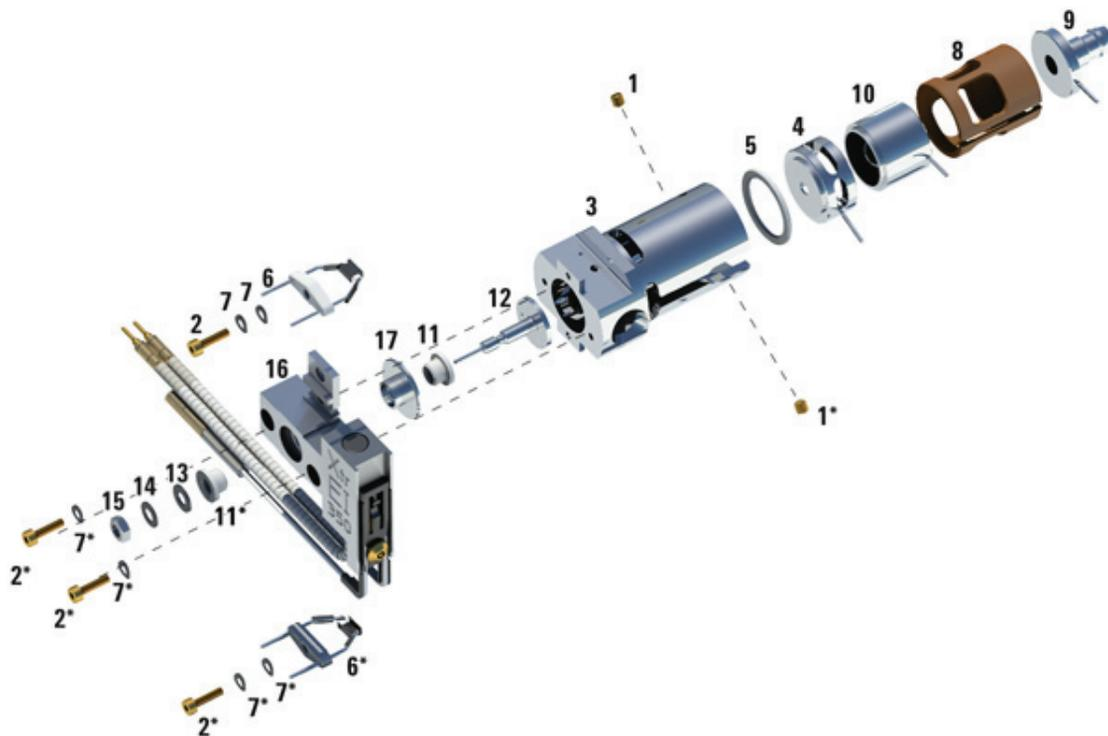

Figure 65. Assembling the EI XTR source
Refer to the exploded parts view Figure 65 and EI XTR parts list Table 26 on page 189 while using this procedure.
- 3 Insert the entrance lens and ion focus lens into the insulator in the order shown in Figure 65 on page 189.
Table 26 Parts list for EI XTR source (Figure 65)
Table 26 Parts list for EI XTR source (Figure 65) (continued)